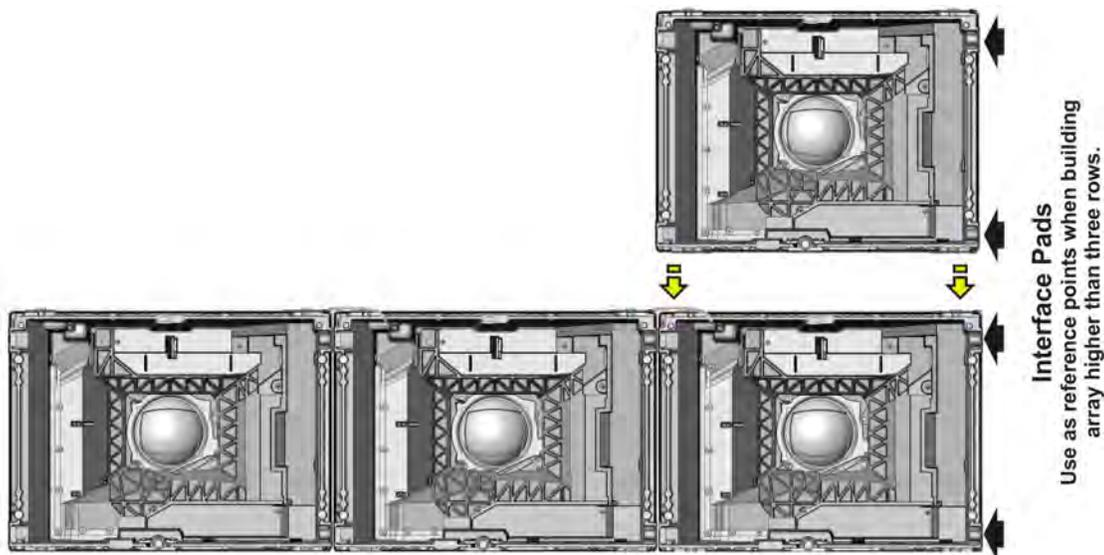

Figure 2-10 Assemble the Second Row
2. Place a tile on top of the first tile in the bottom row (**Figure 2-10**).
9. Place a straight edge on the four interface pads along the side of the column to ensure the top and bottom tiles are straight (**Figure 2-10**). If needed, readjust the top tile or the first row until they are straight.